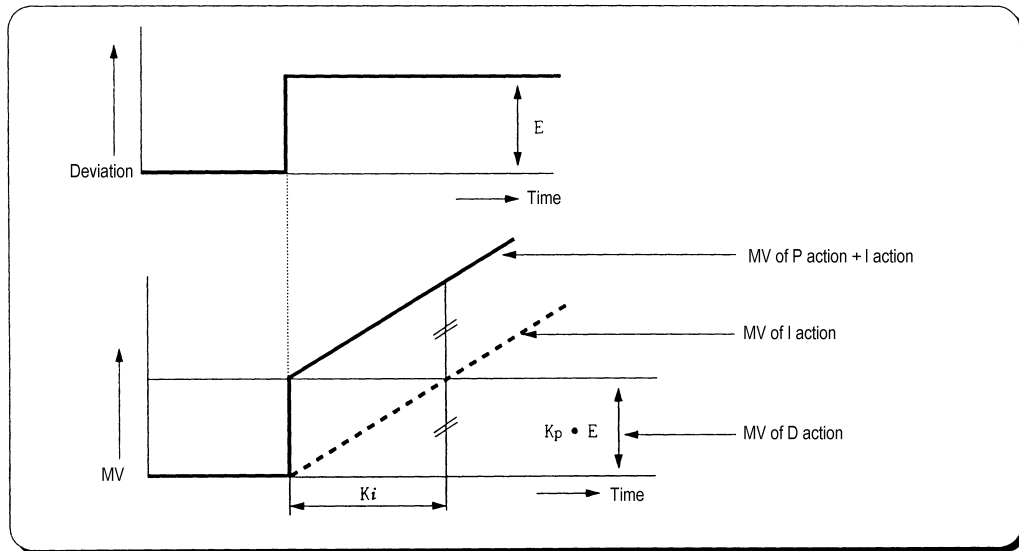

Fig. 2.4 The integral action with constant deviation
- (a) With integral operation, the manipulate value (MV) is increased or decreased continuously in accordance time in order to eliminate the deviation between the SV and PV. When the deviation is very small, the proportional operation can not produce a proper manipulate value and an offset remains between PV and SV. The integral operation can eliminate the offset value even the deviation is very small. The period of the time from when the deviation has occurred in I action to when the MV of I action become that of P action is called Integration time and represented as  $T_i$ .
- (b) Integral action when a constant deviation has occurred is shown as the following Fig. 2.4.